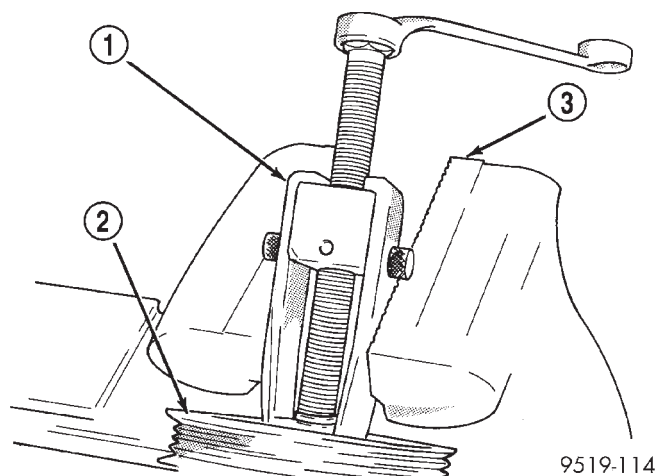

Fig. 24 Removing Pulley From Power Steering Pump Shaft
(2) Mount Puller, Special Tool C-4333 or C-4068 on power steering pump pulley. Mount power steering pump and puller in a vise (Fig. 24) to keep shaft of power steering pump from turning when removing pulley.